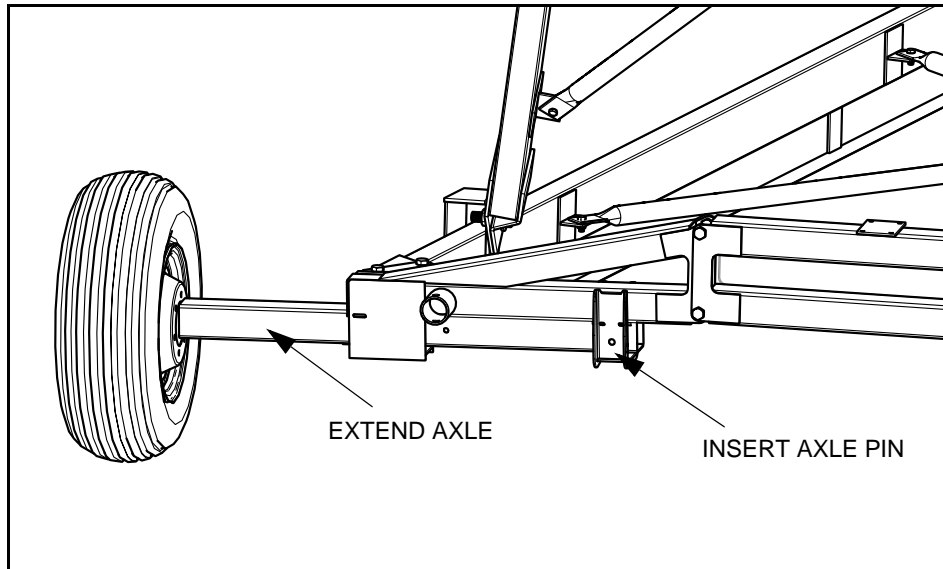

Figure 5.2 Extend Axle and Insert Axle Pin
- d. Remove the axle pin from the axle and slide the axle outwards until the second set of holes line up (Figure 5.2). Reinsert the axle pin and secure with snap pin. Lower the jack.